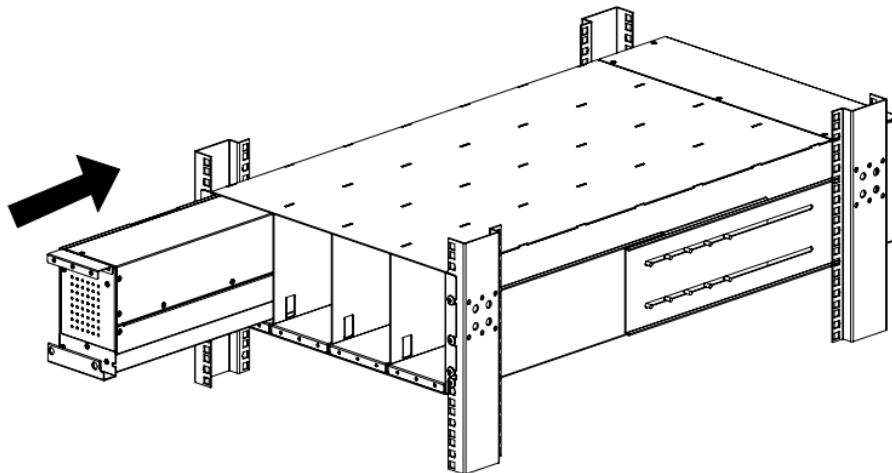

Figure 50: Reinsert the Battery Cartridges into the EBP
51. Refer to the handling instruction, reinsert all four battery cartridges into the EBP (see Figure 50).